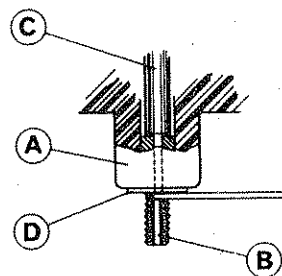

Fig. 1
STRIP BACK POLYETHYLENE SHIELD (C) TO EXPOSE APPROXIMATELY 4" OF ANTENNA WIRE CORE. INSERT WIRE CORE INTO CONNECTOR BOLT (B) AND EXTRACT FROM SLOT. INSERT WASHER "D" AS SHOWN IN FIG. 1